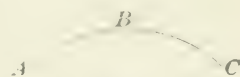

FIG. 2.
19. A curved line changes its direction at every point. Curved lines are designated by three or more letters, as the curved line ABC , Fig. 2.